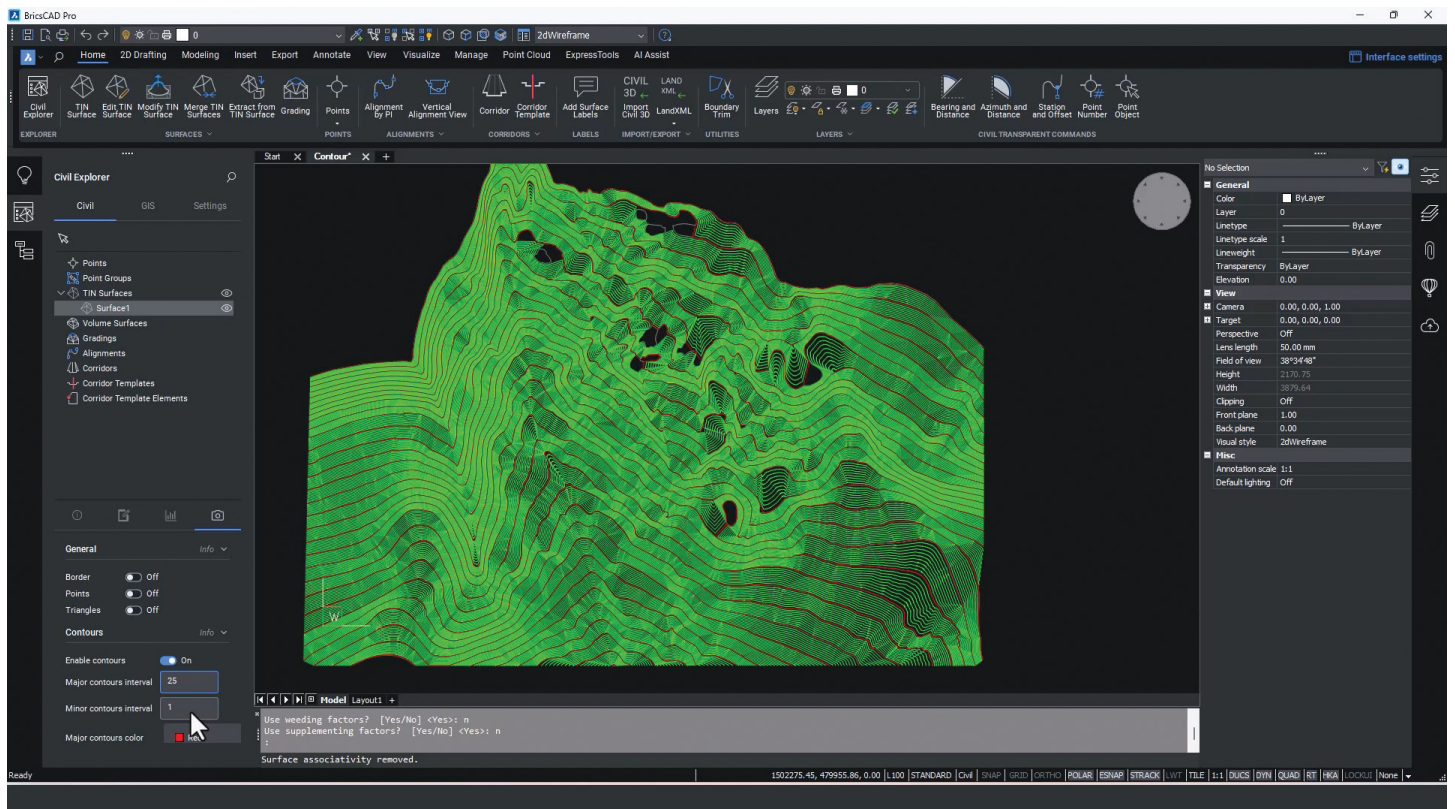

Figure 2
- Weeding and Supplementing Factors: Optimizes break line data to skip vertices and sample additional data when needed (See Figure 2)